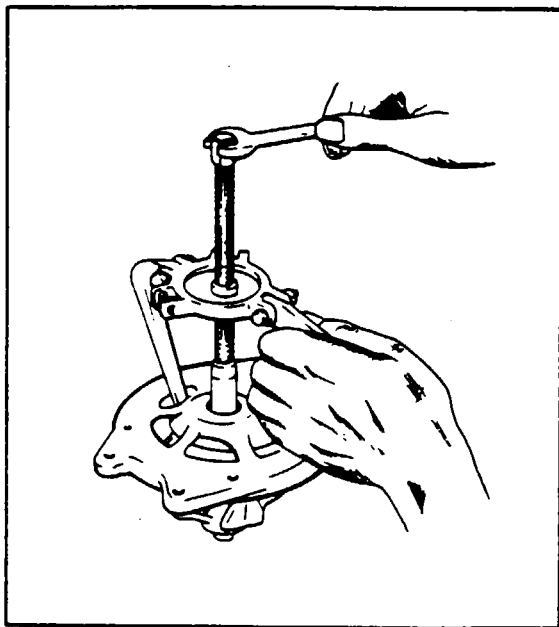
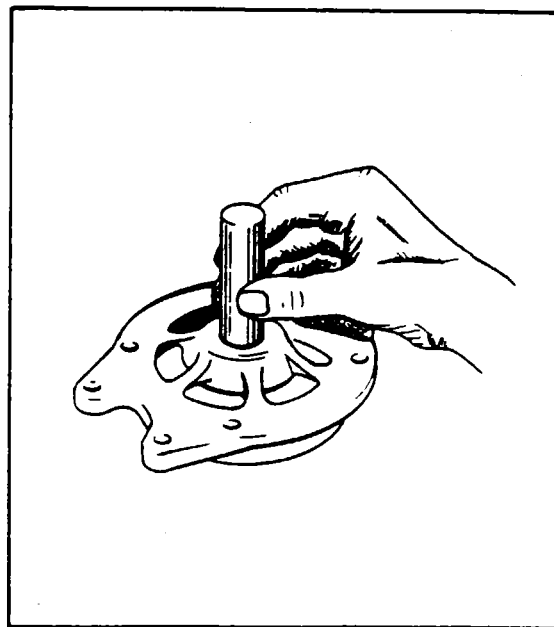

Figure 11-25. Removal of Drive End Head
Figure 11-26. Removal of End Head Bearing
f. To remove the drive end head from the rotor shaft, use a puller that grips on the bearing retainer plate as shown in Figure 11-25. Do not attempt to remove by supporting the end head and pressing on the shaft, as this may result in distortion of the end head or stripping of the retainer plate screws. Remove the three retainer plate screws and press the bearing out of the end head. (Refer to Figure 11-26.)